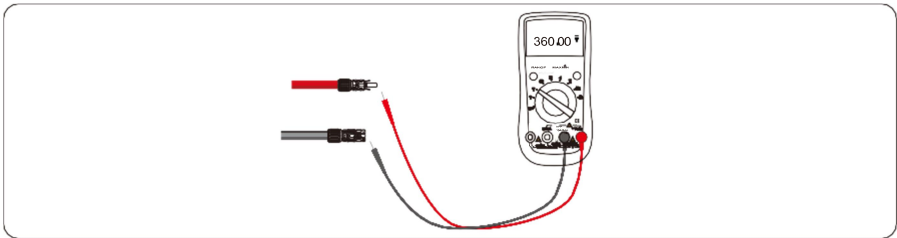

Figure 5.14 Checking the voltage of every route Strings
Step 5 Measure the voltage of every route Strings using a multimeter. Ensure that polarities of the DC input power cables are correct, as shown in Figure 5.14.